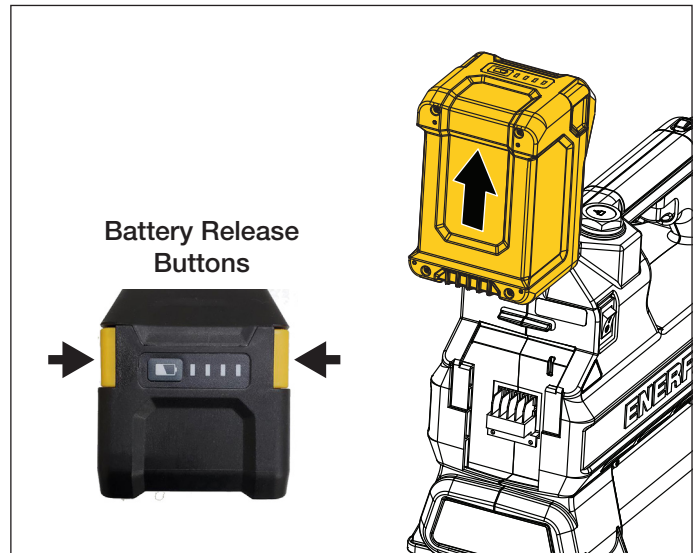

Figure 7: Battery - Remove
- **To remove battery from pump:** Press and hold the release buttons located on each side of the battery. Then, slide the battery upward and remove it from the pump. See Figure 7.